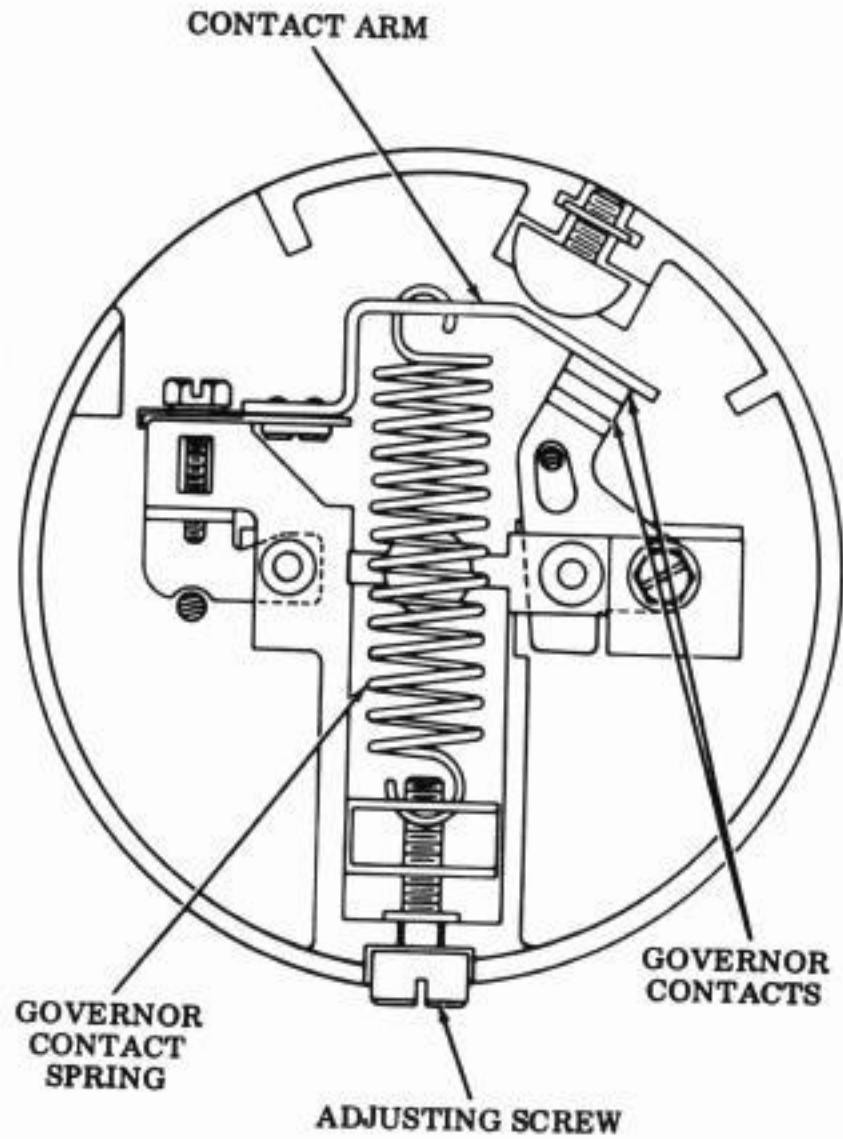

Figure 25 - Motor Governor
2.66 Within a predetermined speed, a governor contact spring holds the governor contacts closed (see Figure 25). When